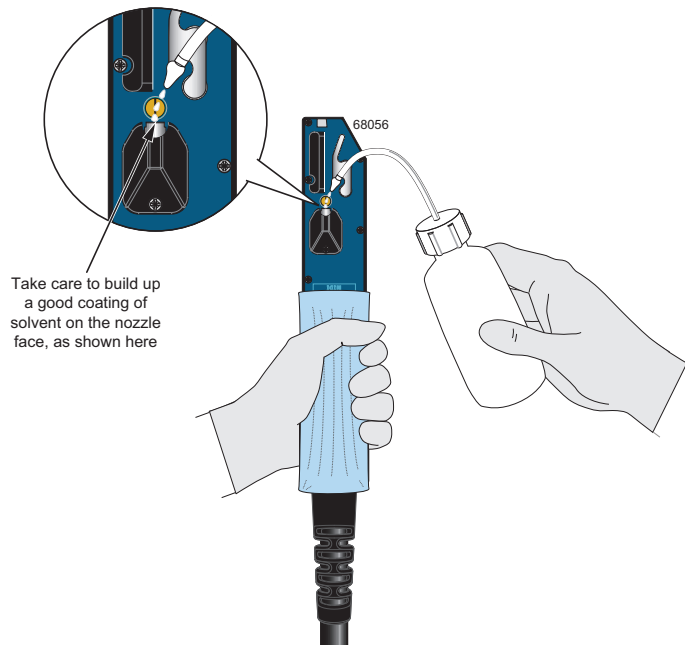

Figure 6-16. Apply the solvent to the nozzle
The Nozzle Clear sequence uses the pump to create a vacuum in the nozzle while you apply solvent to the nozzle (see Figure 6-16). The vacuum pulls the solvent into the nozzle. The reversed solvent flow can clear a blockage behind the nozzle. The Nozzle Clear sequence takes approximately 20 seconds.
- When the first sequence starts, turn the printhead upside down and apply the solvent to the nozzle face (see Figure 6-16). The solvent enters the nozzle: